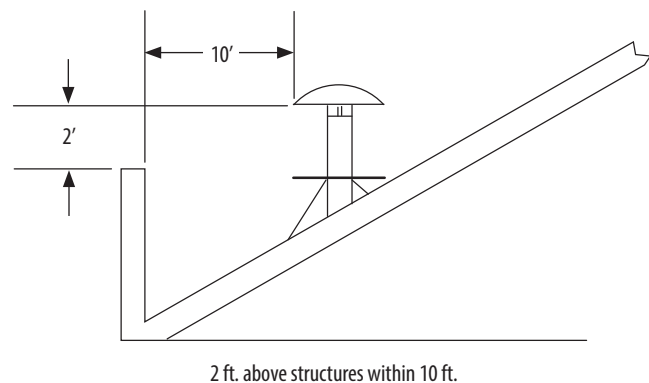

Figure 2- Vertical Installation Requirements
1. The vent system must terminate at least 3 feet above the roof line and at least 2 feet higher than any portion of the building within 10 feet. See Figure 2. This limitation can be removed if an engineering analysis demonstrates normal and safe operation of appliance.